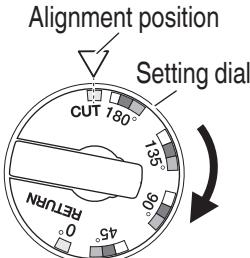

Fig. 30
(1) Position the setting dial in the "CUT" position. (Fig. 30)
(2) Set the rebar to be cut above the lower cutter